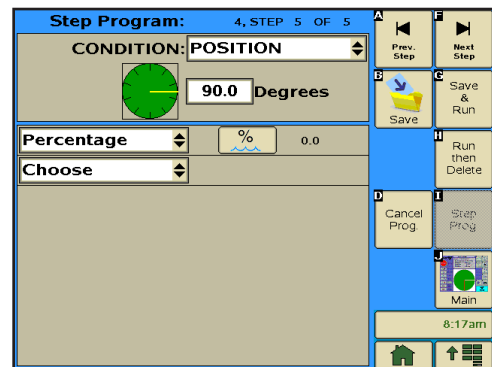

Figure 132-2
17. Program the position condition for this step. Refer to Figure 132-2.